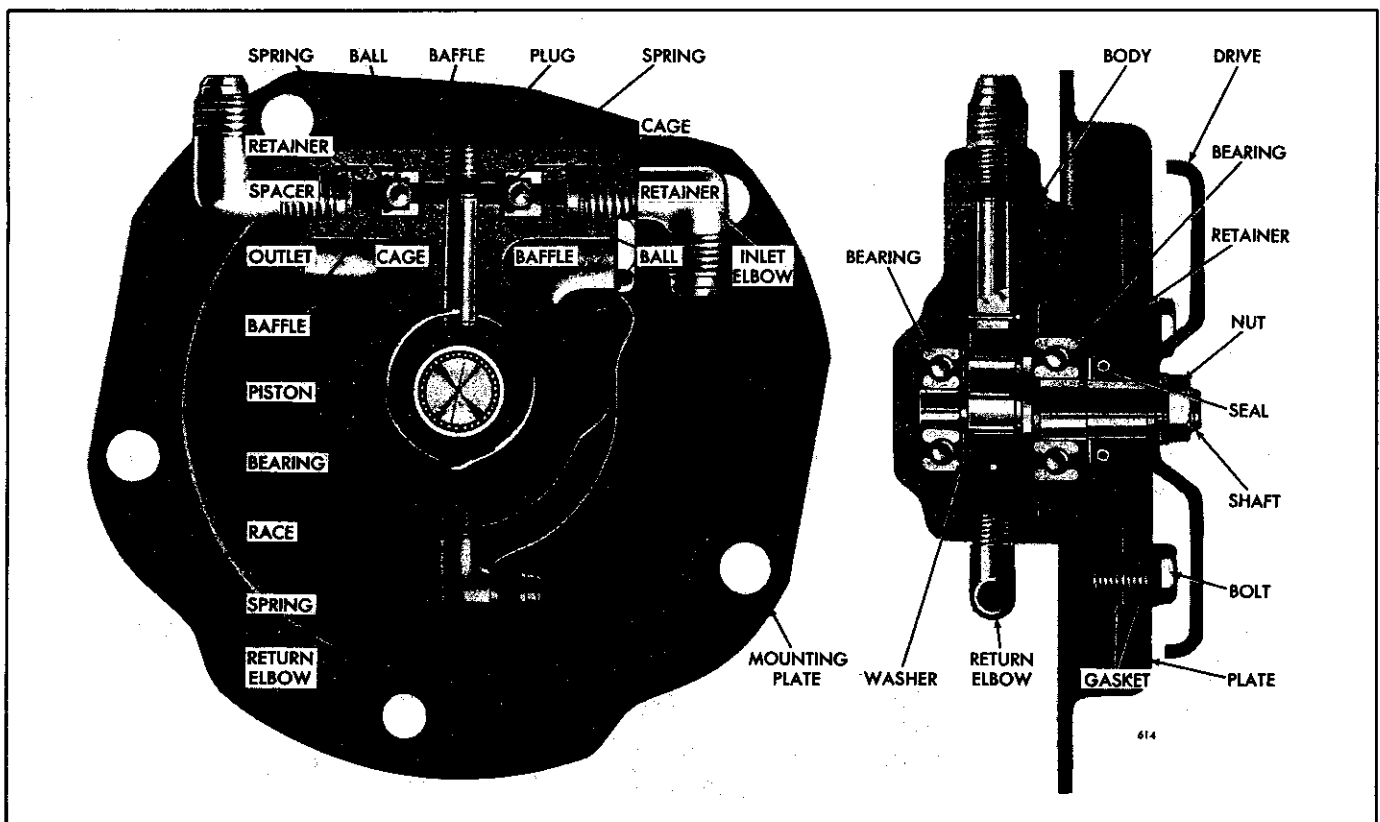
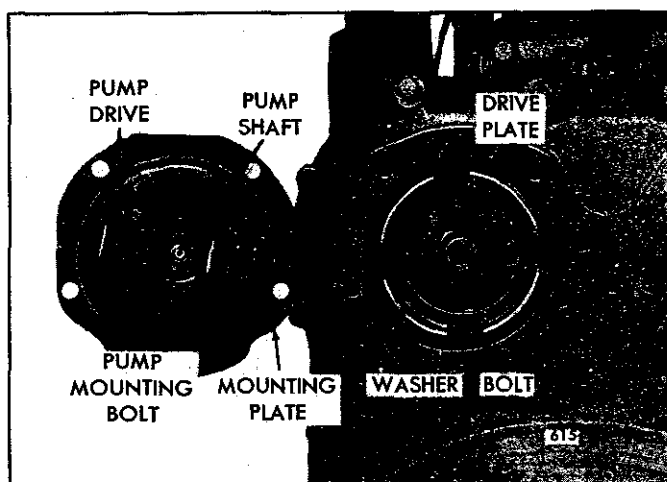

Fig. 10 – Direct Engine-Driven Hydrostarter Charging Pump
Fig. 11 - Pump Drive Plate Mounting
The direct engine-driven charging pump (Fig. 10) is a single –piston positive displacement type. The ball check valves and the unloading valve are automatically controlled by the accumulator pressure. The pump shaft is supported on ball bearings and a seal, pressed into the pump bearing retainer, prevents leakage. The pump is attached to the flywheel housing and is driven by a drive plate bolted to the camshaft gear (Fig. 11).
flywheel housing (Fig. 11). Then remove the pump and mounting plate assembly. Remove the mounting plate gasket.
With the pump removed from the engine, refer to (Figs. 10 and 12) and proceed as follows:
After cleaning, inspecting and replacing the necessary parts, refer to (Figs. 10 and 12) and proceed as follows:
c. Place the seal installer J 7191-1 over the seal lip protector J 7191-3, covering the threaded end of the shaft. Then press the seal in flush with the retainer surface. Refer to (Figs. 10 and 15).